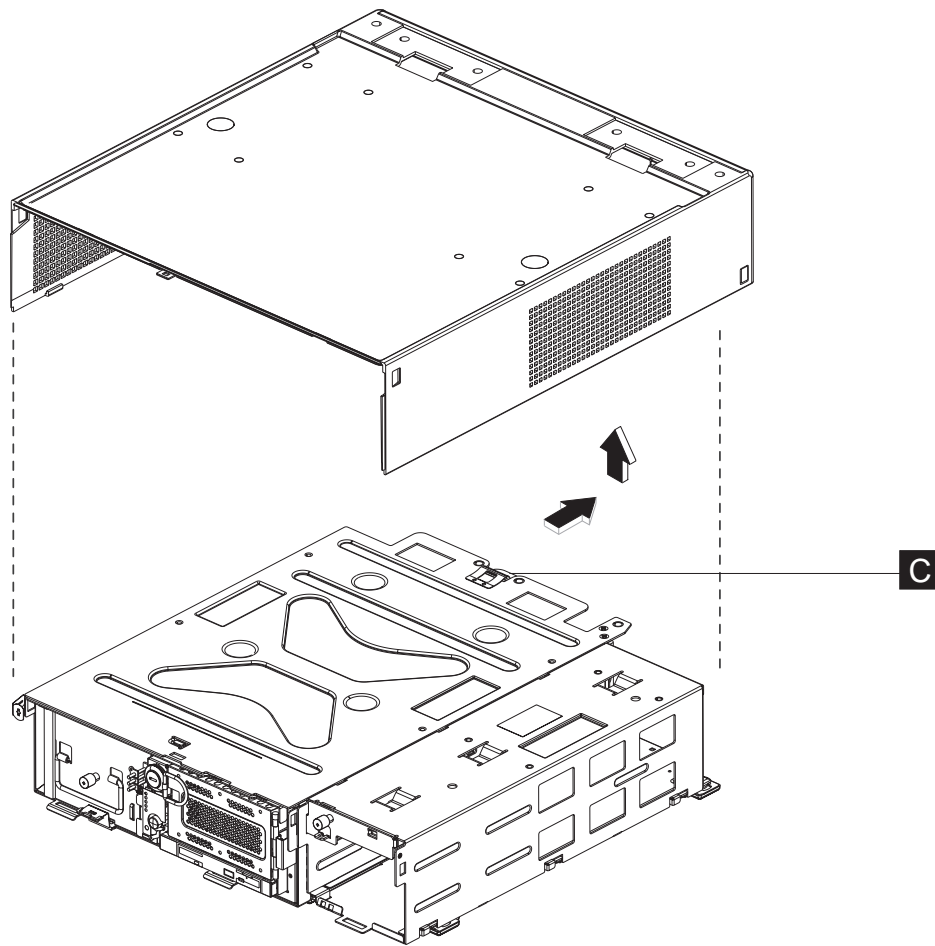

Figure 39. Removing the top cover
4. Locate the metal holding clip located in the rear center of the top cover ( **A** in Figure 39). Push this clip downward and push the cover backward a few inches, then lift upward to remove.